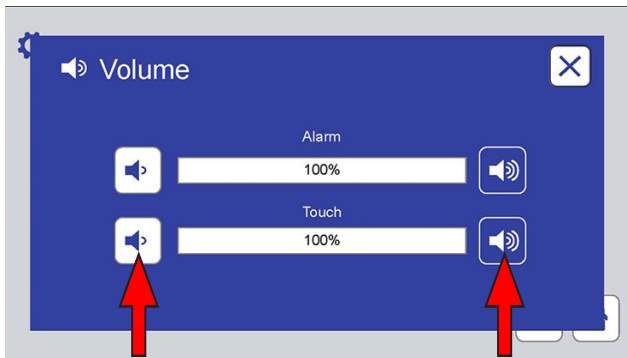
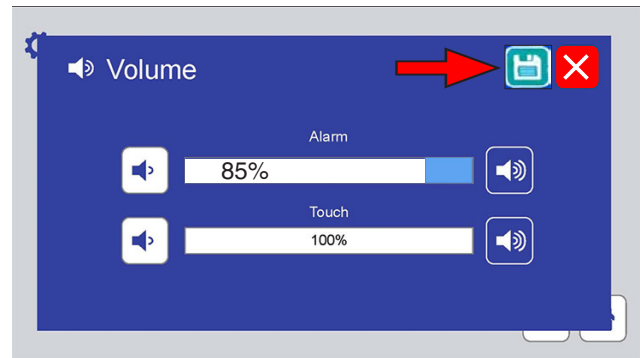

Figure 9.7c: The Volume screen provides controls to set volume (0 to 100) for machine alarms and for the screen touch indicator. Touch a volume icon to adjust.
Figure 9.7d: If a volume is changed, touch the save icon to save the new volume level.
- o Volume (Figure 9.7c and Figure 9.7d).